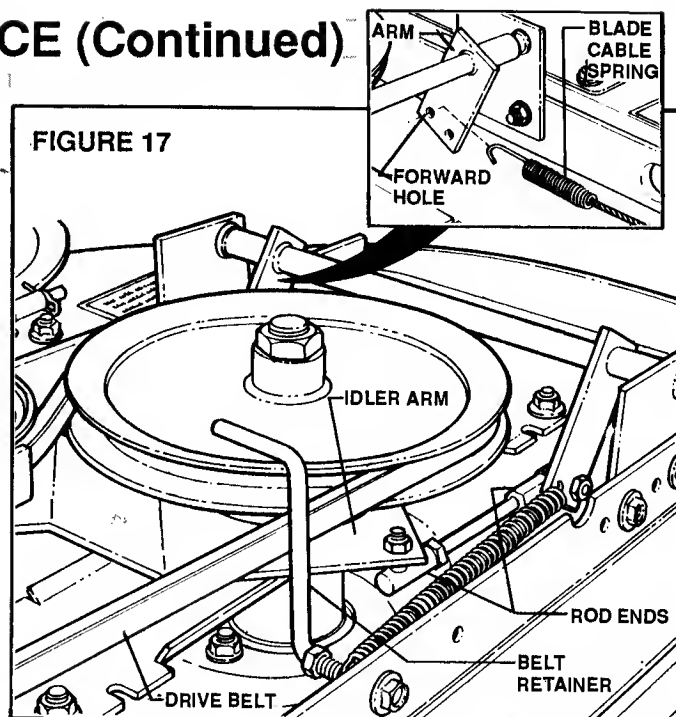

FIGURE 17
3. Remove **BLADE CABLE SPRING** from hole in **CROSS SHAFT**. See inset in Figure 17.
WHEN INSTALLING **BLADE CABLE SPRING**, MAKE SURE SPRING IS ATTACHED IN **FORWARD HOLE** OF **ARM**. (REFER TO FIGURE 17).